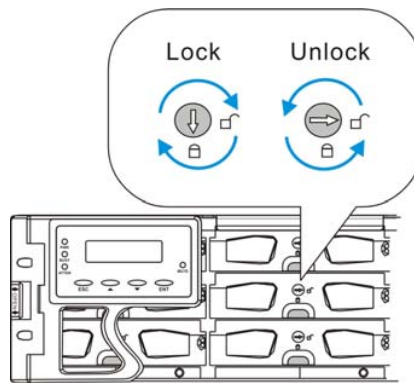

Figure 5-13: Drive Tray Key-lock Rotation
- ③ Do not drop a hard drive.
- ③ Always be slow, gentle, and careful when handling a hard drive.
- ③ Handle a hard drive only by the edges of its metal cover, and avoid touching its circuits part and interface connectors.
Step 2. Make sure the rotary bezel lock is turned to the unlocked position, (See **Figure 5-13**) i.e., the groove on its face is in a horizontal orientation. Use a flathead screwdriver to turn the rotary lock to the unlocked orientation.